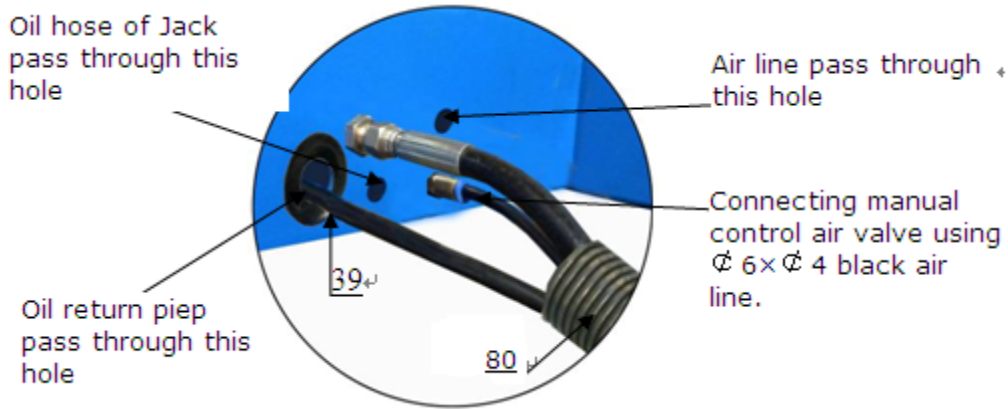

Fig. 28
4. Finish oil hose and air line connecting (See Fig. 28).